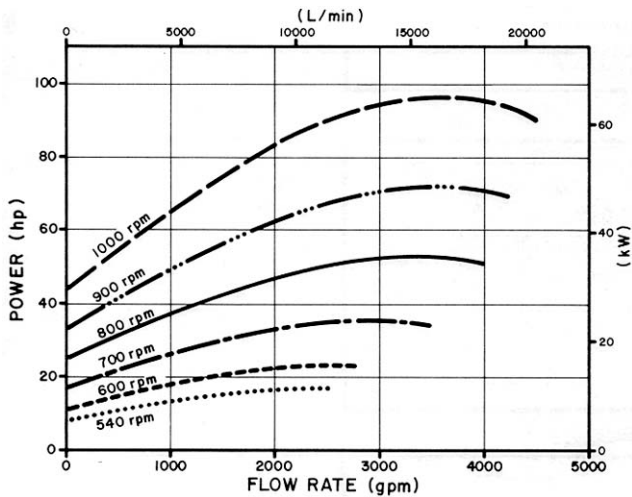

FIGURE 3. Power Requirements to Operate the Lloyd's Model RE-100 Pump at Various Flow Rates and Power Take-off Speeds.
**Power Requirements:** FIGURE 3 shows the power required to operate the Lloyd's model RE-100 pump at various power take-off speeds and flow rates. The maximum power required at a 1000 rpm power take-off speed was 96 hp (72 kW).